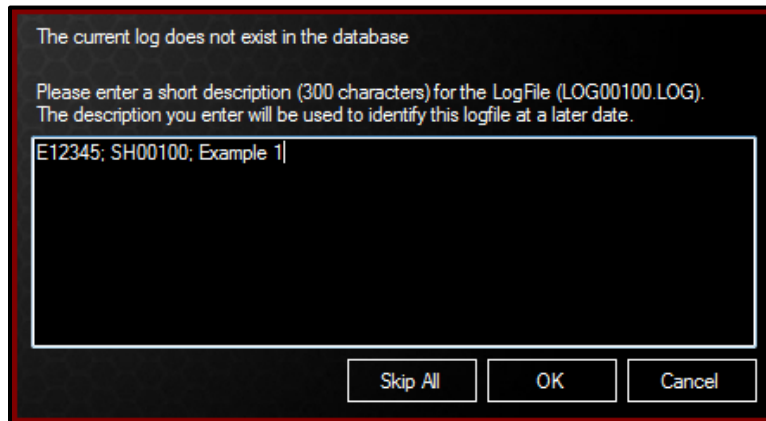

Figure 8.4-2: Data Log Descriptions
3. The DataLogger Software will download all the DataLogs from the E-RAD BLU Controller. Once the DataLogs have been downloaded to the DataLogger Software, you will be prompted to add descriptions of each DataLog file. The name of the DataLog is displayed above the text box (Figure 8.4-2).